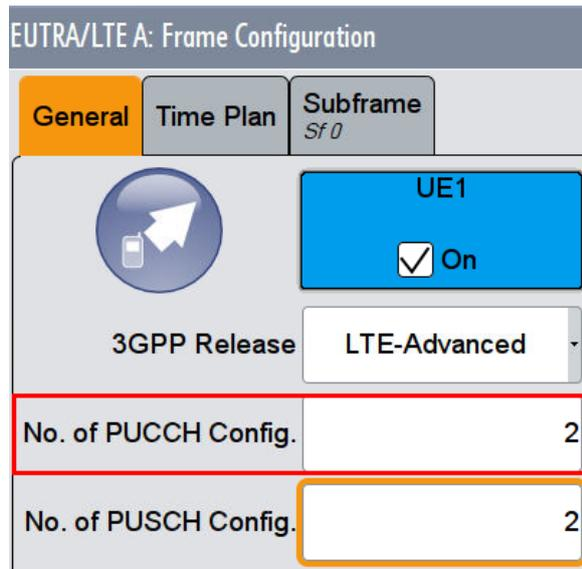

Fig. 3-101: Set two configurable PUCCH subframes
4. Set **No of PUCCH Config** to 2 (Fig. 3-101)